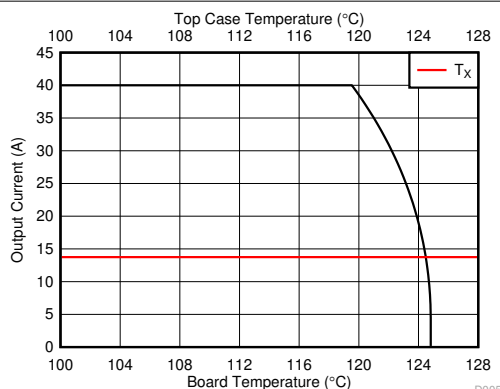

Figure 5-3. Typical Safe Operating Area
The SOA curve in Figure 5-3 provides guidance on the temperature boundaries within an operating system by incorporating the thermal resistance and system power loss. This curve outlines the board and case temperatures required for a given load current. The area under the curve dictates the safe operating area. This curve is based on measurements made on a PCB design with dimensions of 4 in (W) × 3.5 in (L) × 0.062 in (H) and 6 copper layers of 2-oz copper thickness.